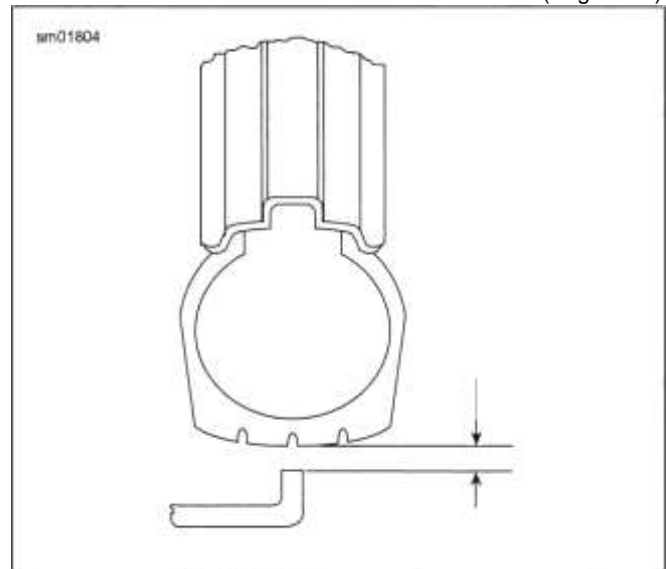

Figure 3-39. Checking Tire Radial Runout
2. See Figure 3-39. Spin the wheel on the axle and measure radial runout at the tread centerline.